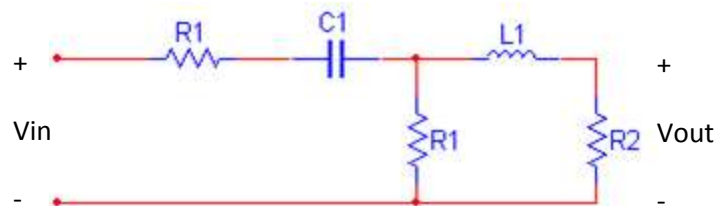

Figure 8
- 15) Find the **mathematical model** for the circuit is shown in Figure 8.